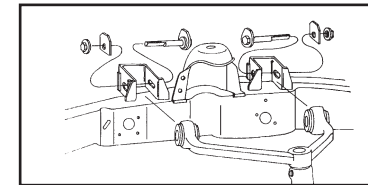
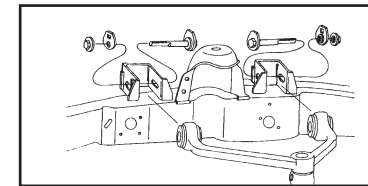
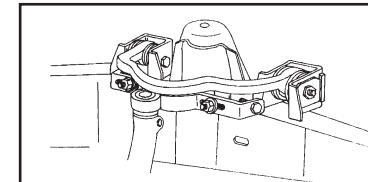

Figure No. 1
Figure No. 2
Figure No. 3
Los brazos de control superiores son trabados dentro del soporte del chasis por medio de cuatro placas "cuadradas" (2 por cada lado) instaladas en la fábrica (vea la figura No. 1). Estas placas tendrán que ser reemplazadas por levas de ajuste de diseño de "lágrima" con el fin de permitir el movimiento para ajustar el camber y el caster (vea la figura No. 2).
Si el vehículo tiene un problema de "avance" o de "tiro" después de haber efectuado los ajustes de alineamiento con levas, (disparidad de caster), un ajuste de caster separado es proporcionado en el brazo superior derecho de la suspensión delantera únicamente (vea la figura No. 3).
Beginning with the 1995 model year many new light trucks and sport utility vehicles manufactured by Ford Motor Company have a new suspension design. The front suspension design consists of a short/long arm suspension (SLA) with torsion bars replacing conventional coil springs. The upper control arms are locked within the frame bracket by four factory installed "square" plates (2 per side) (see figure No.1). These plates must be replaced with "tear drop" designed adjusting cams to allow movement for the adjustment of camber and caster see figure No. 2). If the vehicle has a "lead" or "pull" problem after alignment adjustments have been made with cams, (caster disparity) a separate caster adjustment is provided on the right upper front suspension arm only (see figure No.3).
- 7.) Install "Quick Cam" onto factory bolt in place of "square" plate with washer (spacer) against upper control arm bracket. This spacer provides clearance so cam does not bind against inside corners of bracket (see figure No. 2).
- 7.) Instale la leva "Quick Cam" en el perno de fábrica a cambio de las placas "cuadradas" con la arandela (espaciador) contra el soporte del brazo de control superior. Este espaciador suministra holgura de modo que la leva no se roce contra las esquinas interiores del soporte (vea la figura No. 2).